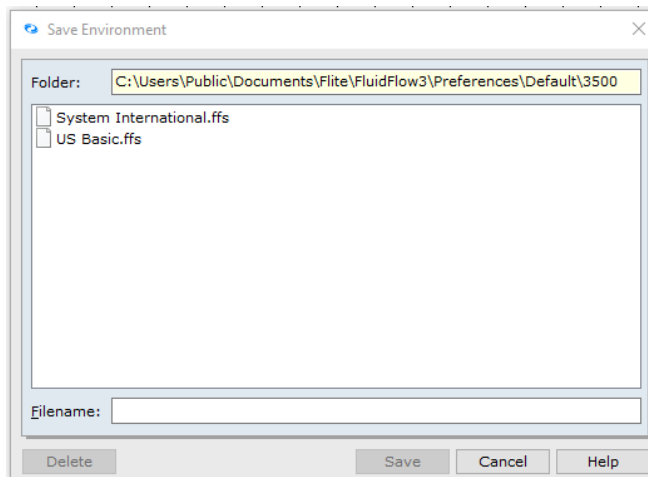

Figure 36: Save Environment Dialogue Box.
34. The Save Environment dialogue box will appear (Figure 36).